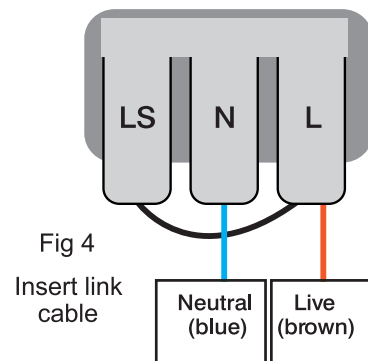

Fig 4
- For maintained operation (luminaire always on) please see Fig 4